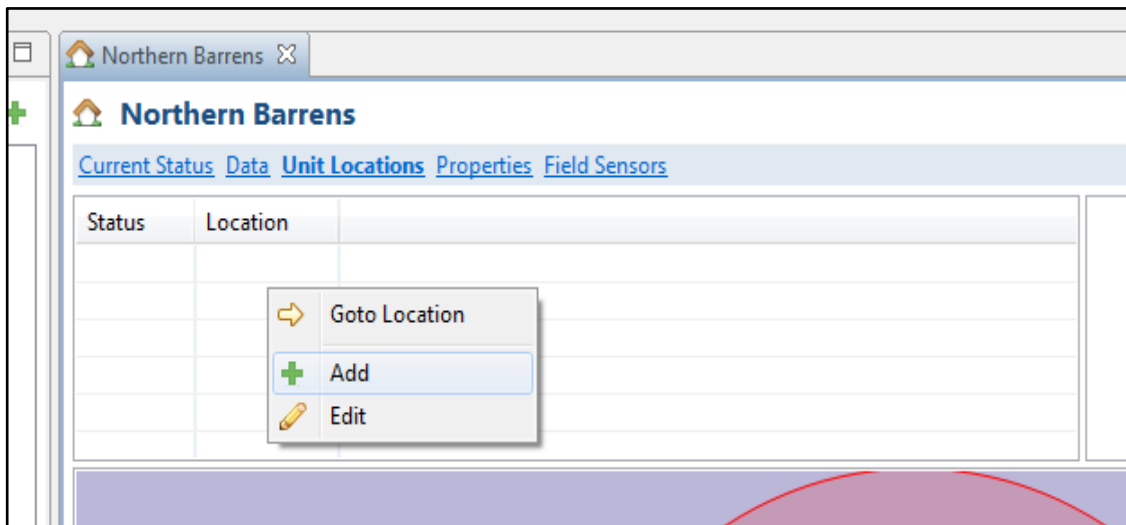
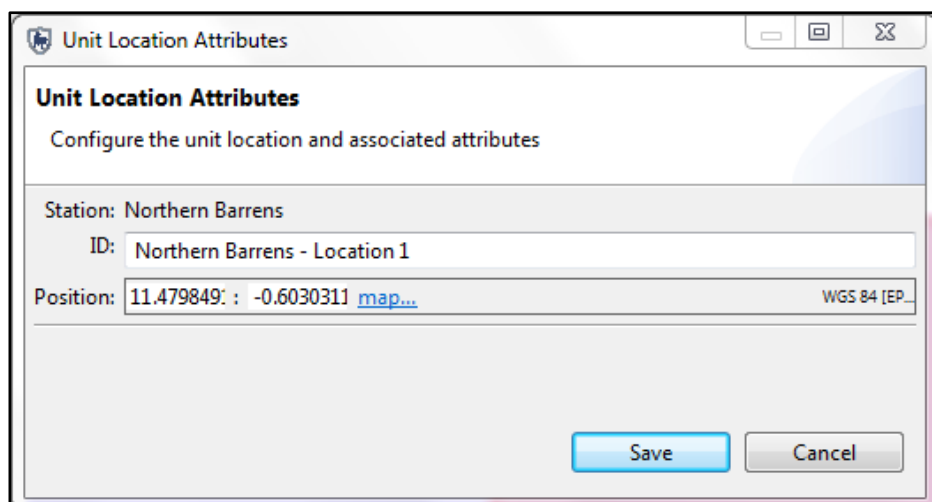

Figure 3.12: Location creation in the Unit Locations submenu of a station tab.
Figure 3.14: Location ID and position.
- Open the information tab of the station for which you would like to add a new location. Navigate to the **Unit Locations** submenu. This submenu displays information on all active and inactive locations (shown in the status column) with their unique ID shown in the Location column. To create a new location, right click anywhere in the blank area of the spreadsheet and press **Add** (Figure 3.12). A window will open displaying default values for **ID** and **position** for the new location (Figure 3.14). The default ID is the name of the station followed by “- Location X” where X is the number of stations that have been created. It is not necessary to include the name of the station in the location ID since it is contained within the station already but may be helpful for quick recognition of its association. The default position is the same as the station. This can be edited using the same procedure as described in the stations section.